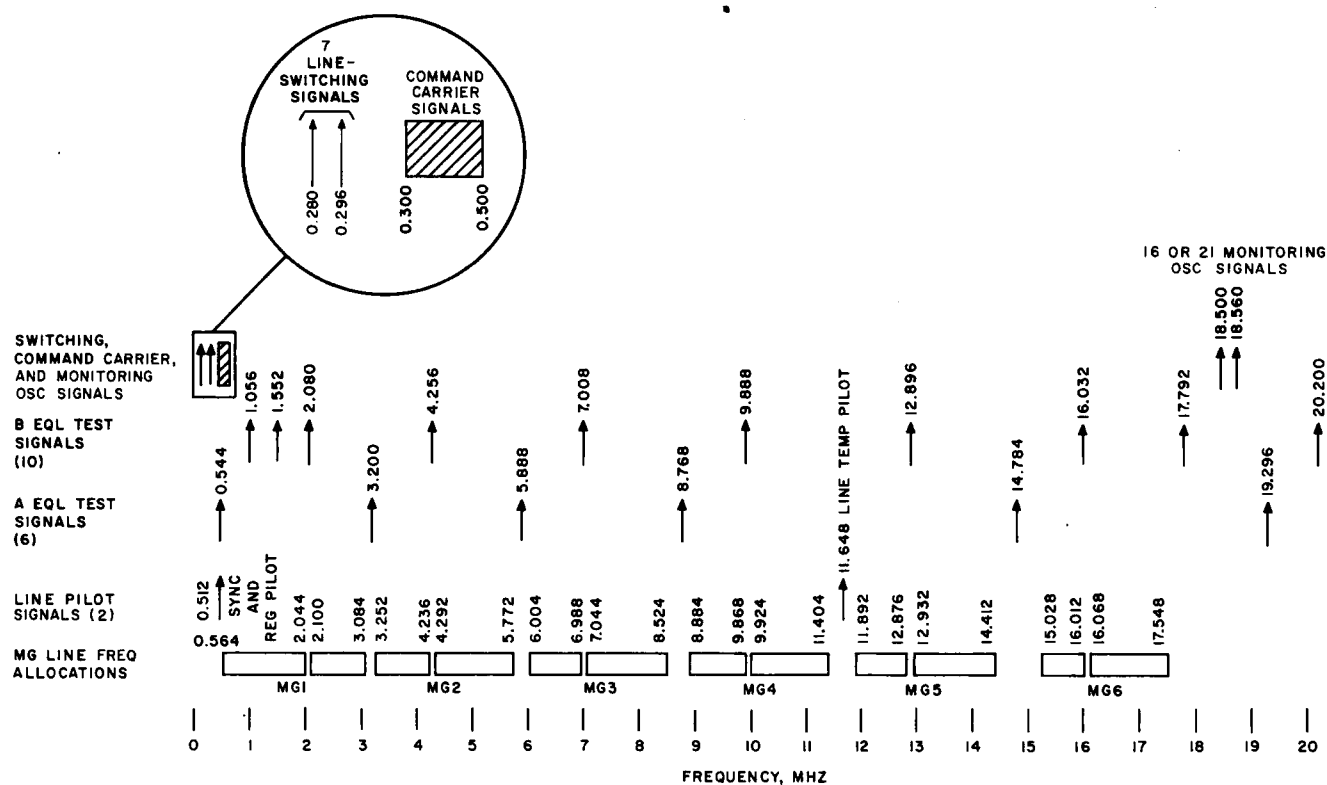

Fig. 5—L4 Frequency Allocations
1.09 The frequency allocations of the L4 system are shown in Fig. 5. Line connecting equipment is provided for each line, as required, to pass, branch, and/or block the various signals.